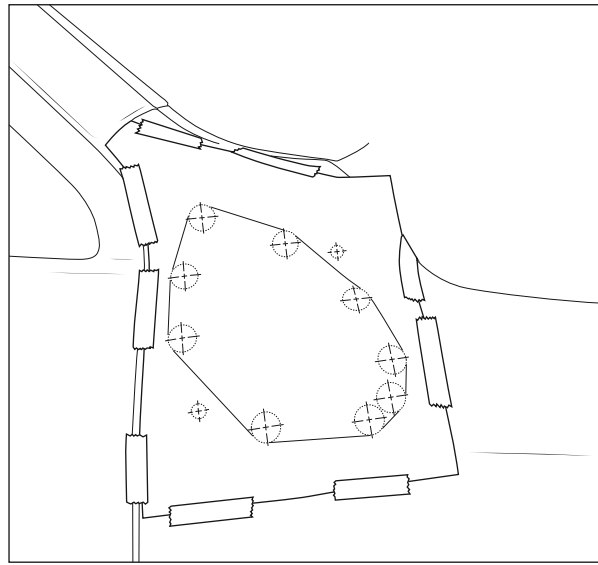

Figure 9
10. Trim the template per the instructions and tape to the fender (fig. 9).